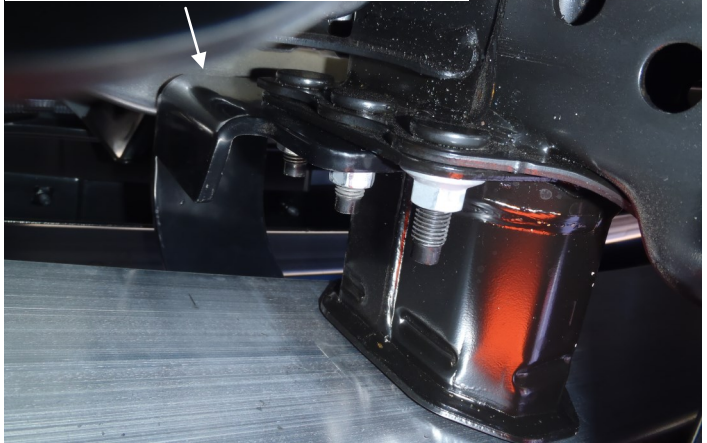

Fig. 3
5. Slip each Support Bracket through the bumper grille opening and loosely attach them to the frame studs using the factory M10 flange nuts. Note: It is recommended to slip the brackets in from the backside of the bumper opening as this makes it less likely to scratch the plastic bumper (Figure 3).